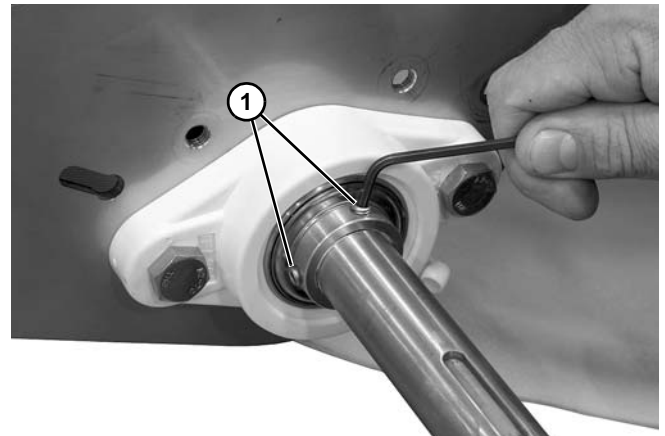

Figure 112
5. Loosen bearing set screws (Figure 112, item 1) on both sides of the center drive.